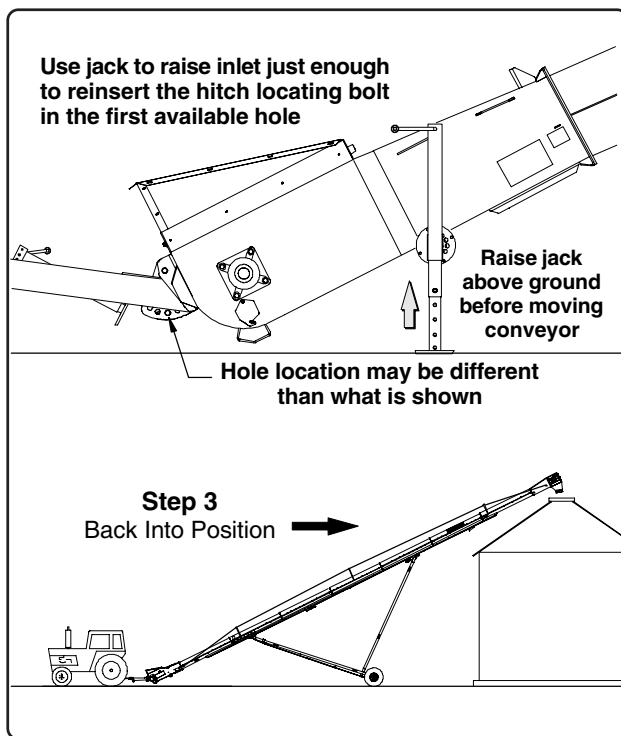

Fig. 7
1. After raising the inlet end off the ground, back the conveyor slowly into working position with the towing vehicle (See Fig. 7). **Never move the conveyor by hand, always use a vehicle.**